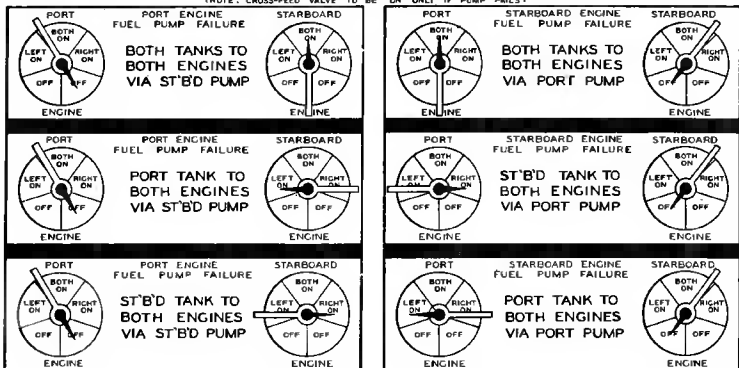

Figure 24—Fuel Selector Valve Position Chart
(2) SELECTOR VALVES. (See figure 24).—The fuel flow from the tanks to the engines is controlled by the selector valves on the engineer's panel. The port valve can be set to feed fuel from either or both tanks to the port engine. The starboard valve can be set to feed fuel from either or both tanks to the starboard engine.
(3) HAND WOBBLE PUMPS.—Connected to the selector valves, and also mounted on the engineer's panel, are the A.E.L. units, incorporating strainers and the two hand wobble pumps. The wobble pump handles are so designed that both pumps can be operated simultaneously with one hand, or separately, as desired.
(4) STRAINERS AND DRAINS.—The strainers are incorporated in the A.E.L. units and are provided with drain cocks, with controls on the engineer's panel, so that they may be drained during flight.
(5) AUXILIARY POWER UNIT, CENTRAL HEATER, and TAIL ANTI-ICER FUEL SUPPLY.—A separate selector valve for the auxiliary power unit fuel supply is located just below the starboard fuel selector valve on the engineer's panel.
(3) OPERATION OF FUEL SELECTOR VALVES.—The various combinations of tank-to-engine fuel flow are shown in figure 24.
(4) OPERATION OF CROSS-FEED SYSTEM.—The various combinations of fuel selector valve settings with only one fuel pump operating, and the cross-feed valve "ON" are shown in figure 24. The cross-feed valve should always be "OFF" except in case of pump failure.
(5) OPERATION OF HAND WOBBLE PUMPS.—The hand wobble pumps are used to furnish fuel pressure to start the engines and to furnish emergency pressure in case one of the engine-driven fuel pumps is disabled. Pump capacity is 135 U. S. (112.5 Imperial) gallons per hour at 120 single strokes per minute.
(6) OPERATION OF PRIMING PUMPS.—The hand priming pump is on the port side of the engineer's compartment. The pump handle can be turned to select the engine to be primed. To unlock the plunger, push the handle all the way down; turn to right or left "ON," as desired. Plunger may then be pulled back for the stroke.